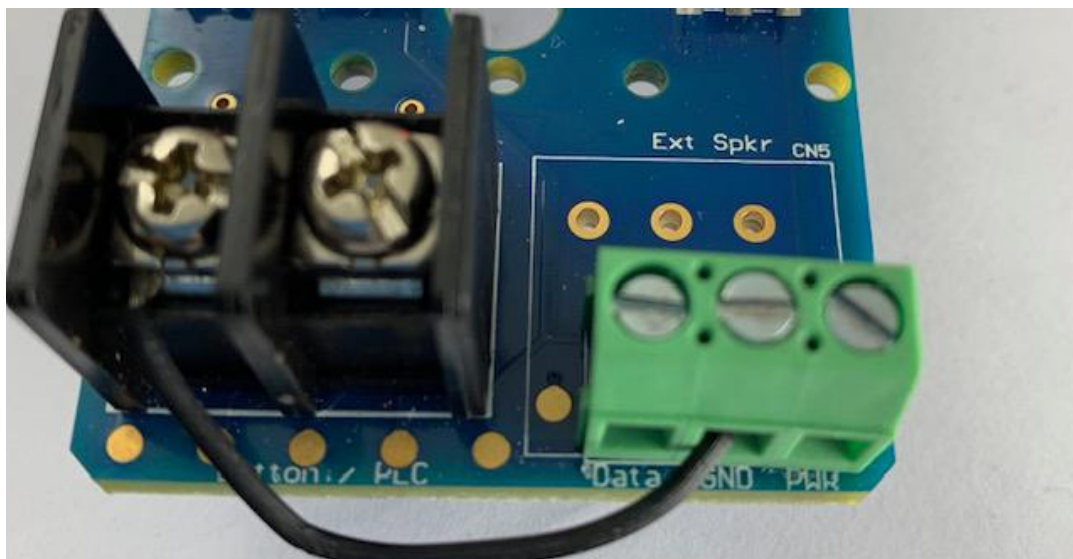

Figure 3 Connection of jumper wire from Button/PLC terminal 1 at 0 Volts to the GND terminal.
3. Place a short jumper wire between the Button/PLC terminal that is at 0 Volts (in the above example that would be terminal 1) and the GND terminal block; as shown in Figure 3 below: